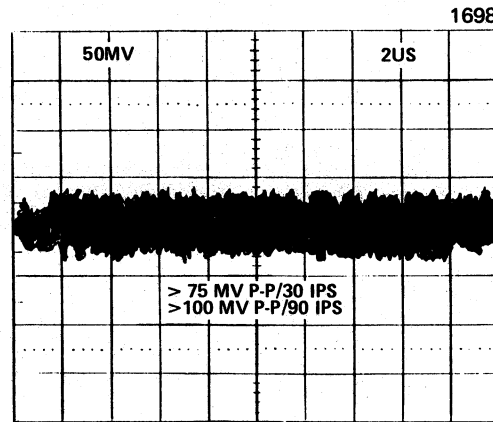

Figure 3-19. Pattern Bit Length Voltage
- f. Rotate PATTERN BIT LENGTH thumbwheel switch on BE101 from position 1 to position 2, then to position 3. Signal level on oscilloscope should not exceed 75 millivolts peak-to-peak for 30 ips tape drive, or 100 millivolts peak-to-peak for 90 ips tape drive, as shown in Figure 3-19.